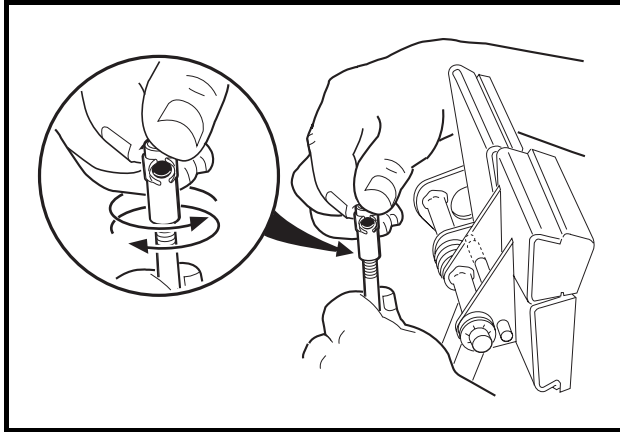

Figure 5-16 Brake Rod Adjustment
- 4.6. If ratchet/pawl engagement must be adjusted, disconnect the ball joint at the top of the brake rod and rotate the ball joint sleeve clockwise to increase engagement or counterclockwise to decrease engagement. Reconnect ball joint (Figure 5-16, Page 5-14).